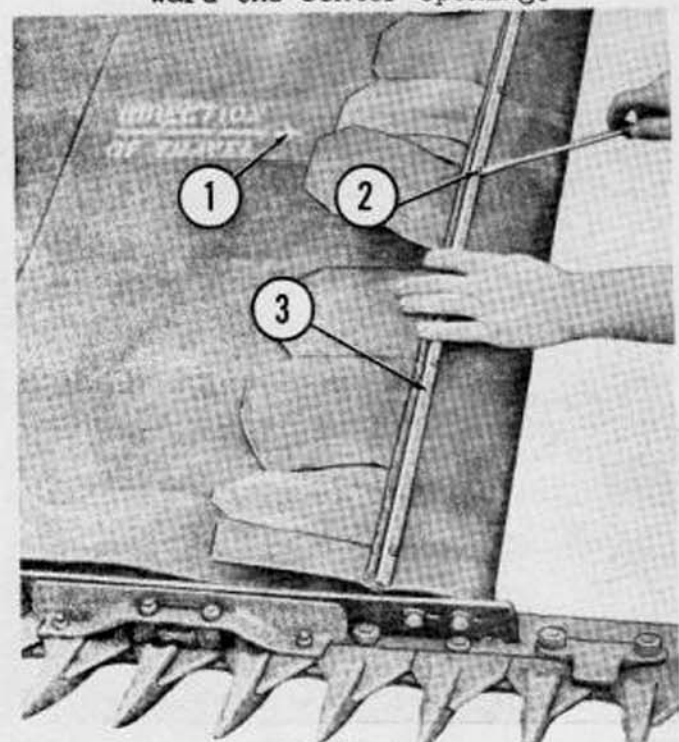

Figure 17
- b. If the windrower is to be placed in immediate use, release the two canvas tightener handles at the top of the header and install the canvas around the rollers so that the arrow (see 1, Figure 17) on each canvas points toward the center opening.
- c. Loosen the nuts on the ten bolts (see 2, Figure 17), in the canvas connecting slats (3) and pull the split ends of the canvas through the slats uniformly until all bolts are at the bottom of the slits.
- d. Tighten the nuts on all bolts in the connecting slats as shown in Figure 17, then turn the tightener handles to place tension on the canvas. Check to be sure that both canvases are installed evenly with the slats parallel to the rollers.